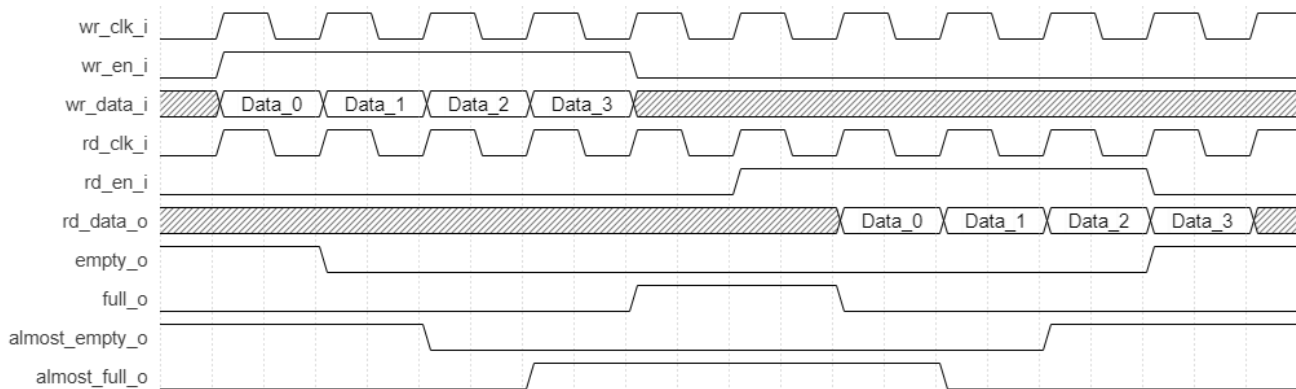
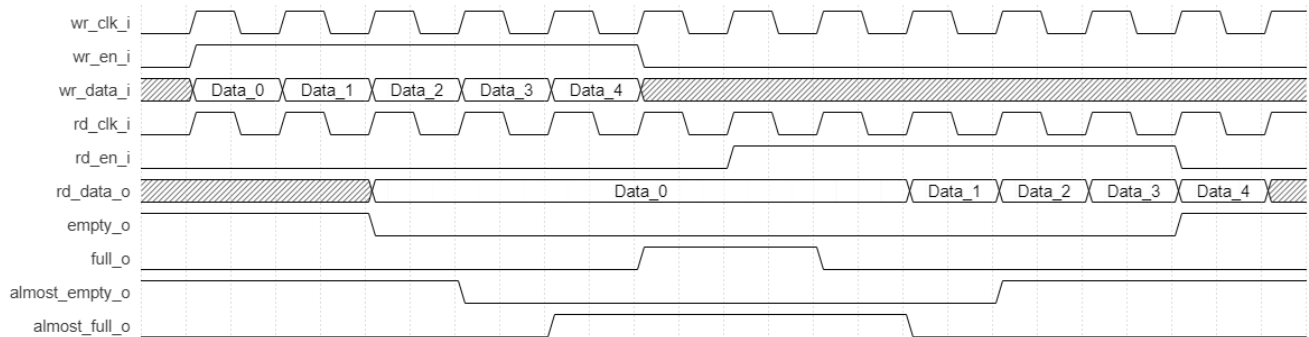

Figure 2.11. FIFO Dual Clock Memory Timing Diagram of Area-Optimized/HW-Based FIFO (Avant Devices)
Figure 2.13. FIFO Dual Clock Memory Timing Diagram, FWFT Mode with Output Registers (Area-Optimized/HW-Based FIFO, Avant Devices)
- Figure 2.11 to Figure 2.13 show timing diagrams when using Area-Optimized (HW-Based) Dual Clock FIFO with Avant devices.